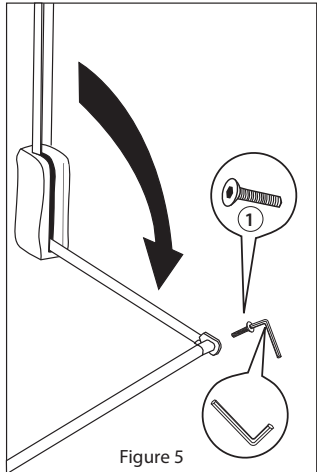

Figure 5
7. Pull down the arm of the unit and place the plastic bracket on the end of both arms. Insert the telescopic hanging rod into one side and secure with hex head bolt (1), see Figure 5. Twist as shown in Figure 6 to adjust hanging rod, attach the other side in the same manner